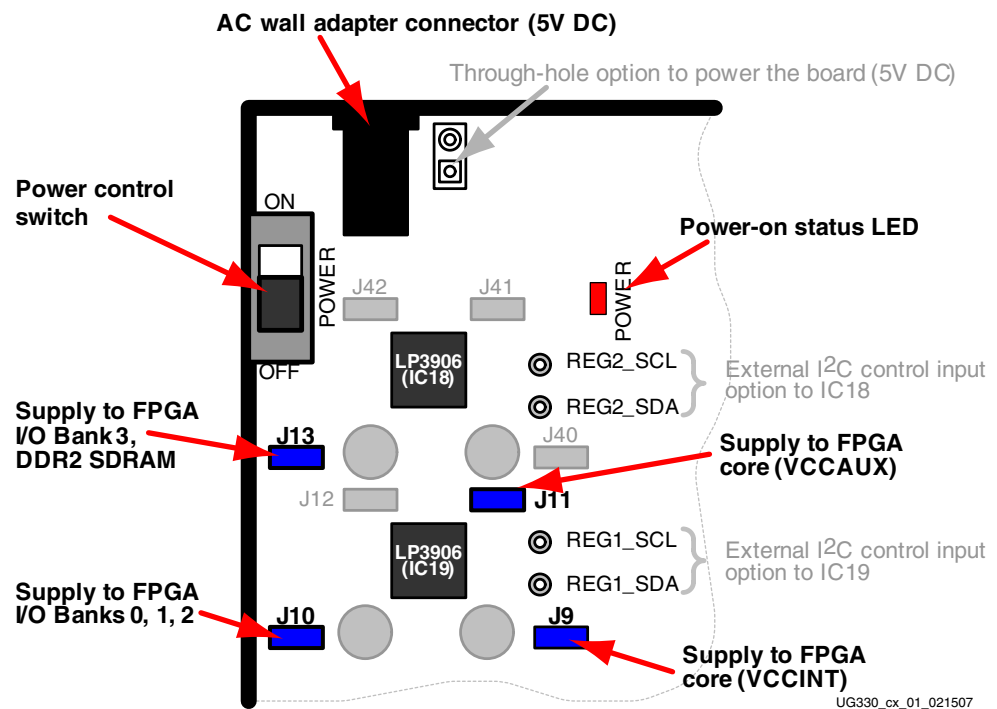

Figure 17-1: Spartan-3A Starter Kit Board Voltage Supplies
The voltage supplies are located in the upper left corner of the board, as shown in Figure 17-1.
All regulator output supplies have an associated series jumper, as indicated in Table 17-1 and shown in Figure 17-1. This allows for simple and easy current monitoring using just a multimeter.
- Remove the series jumper associated with the supply to be measured, shown in Table 17-2. Locate jumper indicated in Figure 17-1.
Each LP3906 regulator has an two-wire, I²C serial interface that optionally controls various functions, such as the regulator output voltage. As indicated in Table 17-3, the I²C interface can be controlled by the FPGA application using the I/O pins indicated or by some external controller using the through-hole mounting pads provided on the board, shown in Figure 17-1.